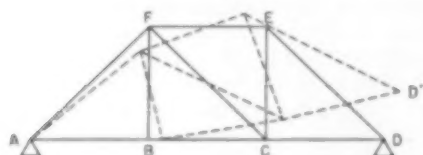

FIG. 1. TRUSS, with point *A* and direction *AB* assumed fixed, deflects as shown by dotted lines, and Williot diagram will correctly show this deflection pattern.
fixed point and a fixed member. Thus the truss of Fig. 1, with point *A* and direction *AB* assumed fixed, will deflect as shown by the dotted lines, and the Williot diagram will correctly show this deflection pattern. The true deflection of point *D*, however, must have a zero vertical component, and it is this fact which is the basis of the Mohr correction. The true deflections are then determined as the distances between the corresponding points on the Williot and Mohr diagrams.
2. Measure the distance corresponding to  $DD'_V$  on Fig. 1.